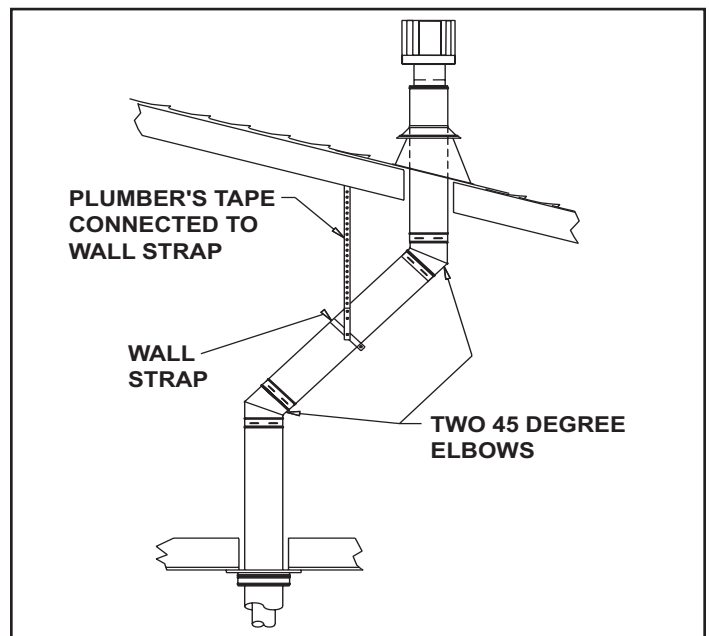

Figure 5.12
**Step 2** - Set the gas appliance in its desired location. Drop a plumb bob from the ceiling to the position of the appliance flue exit, and mark the location where the vent will penetrate the ceiling. Drill a small hole at this point. Next, drop a plumb bob from the roof to the hole previously drilled in the ceiling, and mark the spot where the vent will penetrate the roof. Determine if ceiling joists, roof rafters, or other framing will obstruct the venting system. You may wish to relocate the appliance, or to offset, as shown in Figure 5.12 to avoid cutting load bearing members. When location is determined, drill small hole.
1. If an offset is necessary in the attic to avoid obstructions, it is important to support the vent pipe every 3 ft. (914mm) to avoid excessive stress on the elbows, and possible separation. Wall straps are available for this purpose, Figure 5.12.